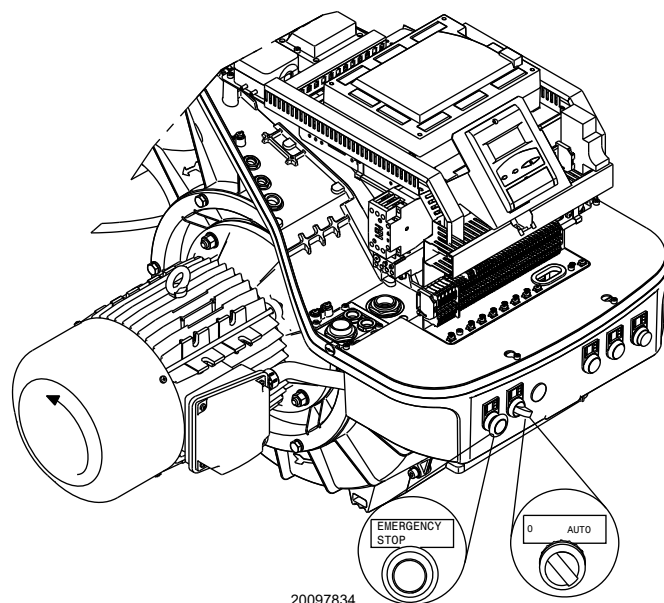

Fig. 25
Turn the switch to position **"AUTO"** (Fig. 25).
Make sure that the lamps or testers connected to the solenoids, or indicator lights on the solenoids themselves, show that no voltage is present. If voltage is present, stop the burner **immediately** and check the electrical wiring. When the burner starts, check the direction of the motor rotation, as indicated in Fig. 25.
- place the switch of Fig. 25 in position **"0"** and wait for the control box to carry out the switch-off phase;